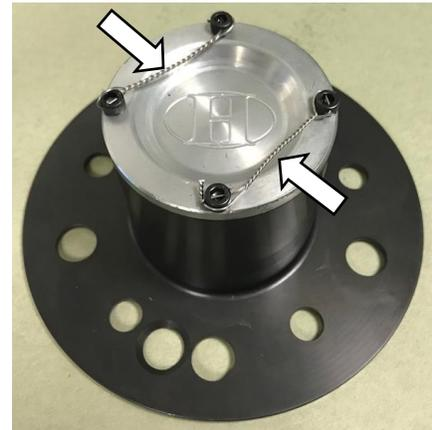

Figure 1
1. Blue Loctite and safety wire the screws on the drive flange cap before use. Shown in *figure 1*.